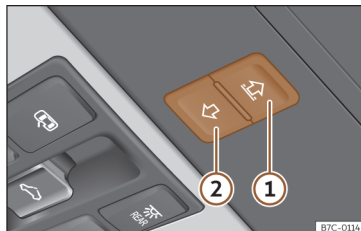

Fig. 85 On the interior roof lining: sunshade blind buttons.
Buttons»» **Fig. 85** **(1)** and **(2)** have two levels. The first level opens or closes the sun blind fully or partially.
- *Sun blind*: within approximately 5 seconds of having activated the anti-trap function, press button >>> **Fig. 85** ② until the sun blind closes completely.